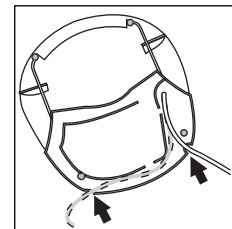

fig. 1
- The power cable can be positioned to the right or left, depending on where the nearest power outlet to the appliance is located, by lodging it in the corresponding guides underneath the appliance (Fig. 1).
- When changing the position of the power cable, check that it is properly secured by the special clips underneath the appliance (Fig. 1)